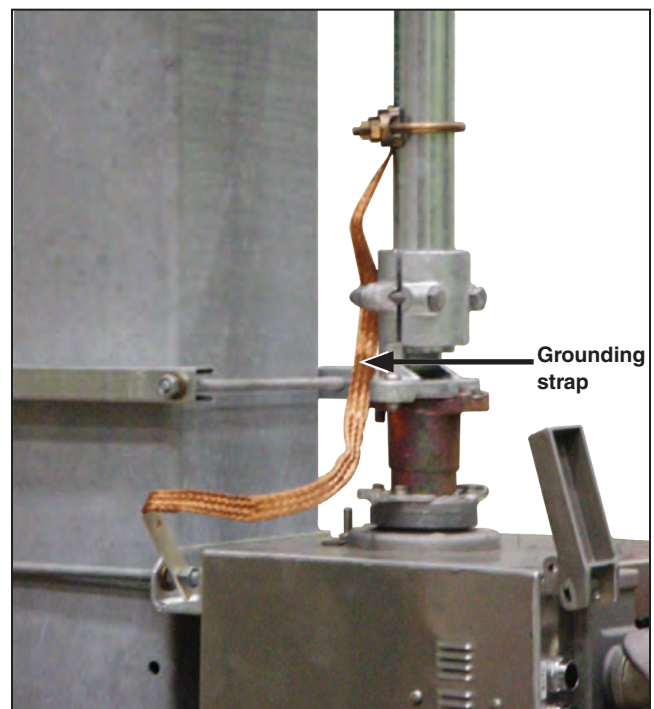

Figure 29. Attach the grounding strap.
**STEP 8.** Fasten the free end of the grounding strap to the vertical shaft a few inches above the flexible coupling attached to the switch operator, using the grounding connector provided. Then, fasten the other end of the grounding strap to a suitable earth ground. See Figure 29.